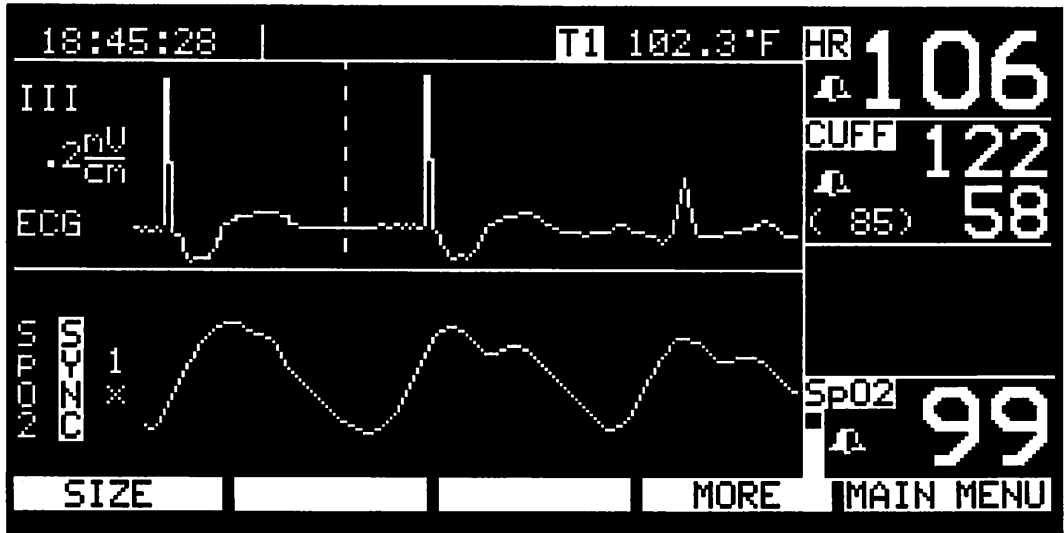

Figure 2-34. SpO₂ waveform
- 7 If necessary, adjust the placement of the sensor until a good SpO₂ waveform is displayed (see Figure 2-34 on page 2-71). The waveform indicates the quality of the oxygen saturation measurement. A waveform with artifact may indicate erroneous oxygen saturation readings. Turn on the C-LOCK function as described below if you are also monitoring ECG. If the measurement is suspect, use another clinically accepted method of determining oxygen saturation.